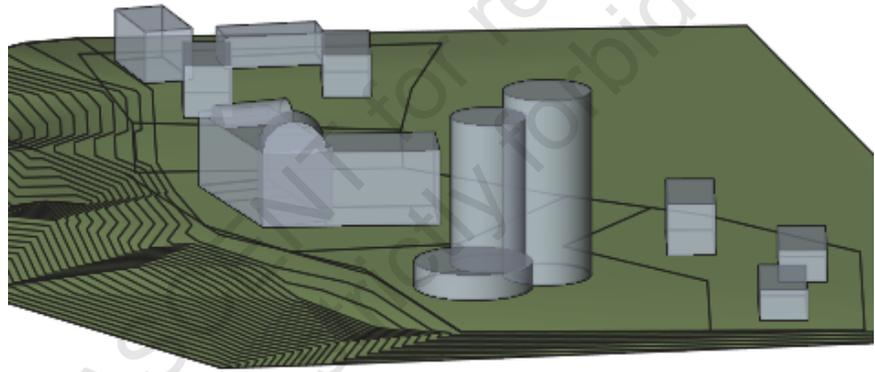

Figure 1–17
In this practice, you will use basic shapes from the massing families supplied with the Revit software to model existing buildings around a proposed site, as shown in Figure 1–17. The footprint and height for each mass are included on the toposurface.
5. In the *Modify | Place Mass* tab>Placement panel, verify that  (Place on Work Plane) is selected and place several box massing elements on the site plan where you see rectangular outlines, as shown in Figure 1–18.